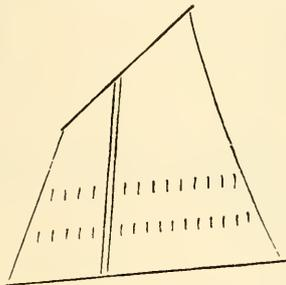

FIG. 335.
*Split Lug*.—A lugsail in two parts (Fig. 335):